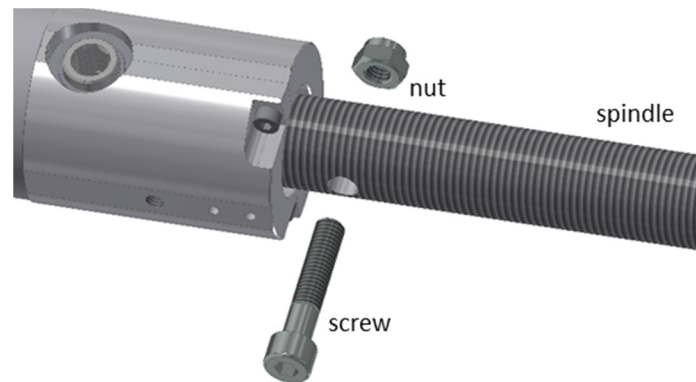

Figure 5-1: Connection of a spindle
- The spindle is mounted with the enclosed screw DIN912-M8x40 and nut DIN985-M8-VZ via the bore provided in the output shaft, see Figure 5-1.